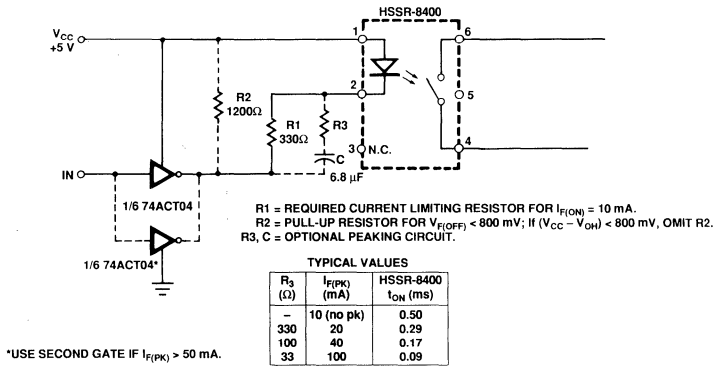

Figure 1. Recommended Input Circuit.
7. For a faster turn-on time, the optional peaking circuit shown in Figure 1 may be implemented.
the population, a portion of the distribution will vary with use. The optional peaking circuit shown in Figure 1 can be used to reduce the total turn on time and, consequently, any associated variation.